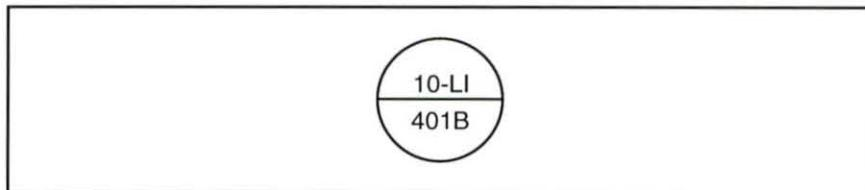

Figure 78. Instrument Tag
5. Identify the loop and area the device is in using the instrument tag in figure 78.